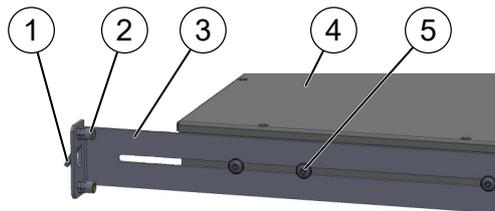

Fig. 19: Assembling the rails
10. ▶ Attach the right and left rails (Fig. 19/3) on the side of the system (Fig. 19/4) using the supplied screws (M4, Fig. 19/5).
11. ▶ Attach the system in the rear area of the cabinet using the hook (Fig. 19/1) on the rails.
15. ▶ Tighten the screws (Fig. 19/5).
16. ▶ Mount the rear rails on the cabinet using the supplied screws (M5). Nuts for doing so are provided in the rails (Fig. 19/2).